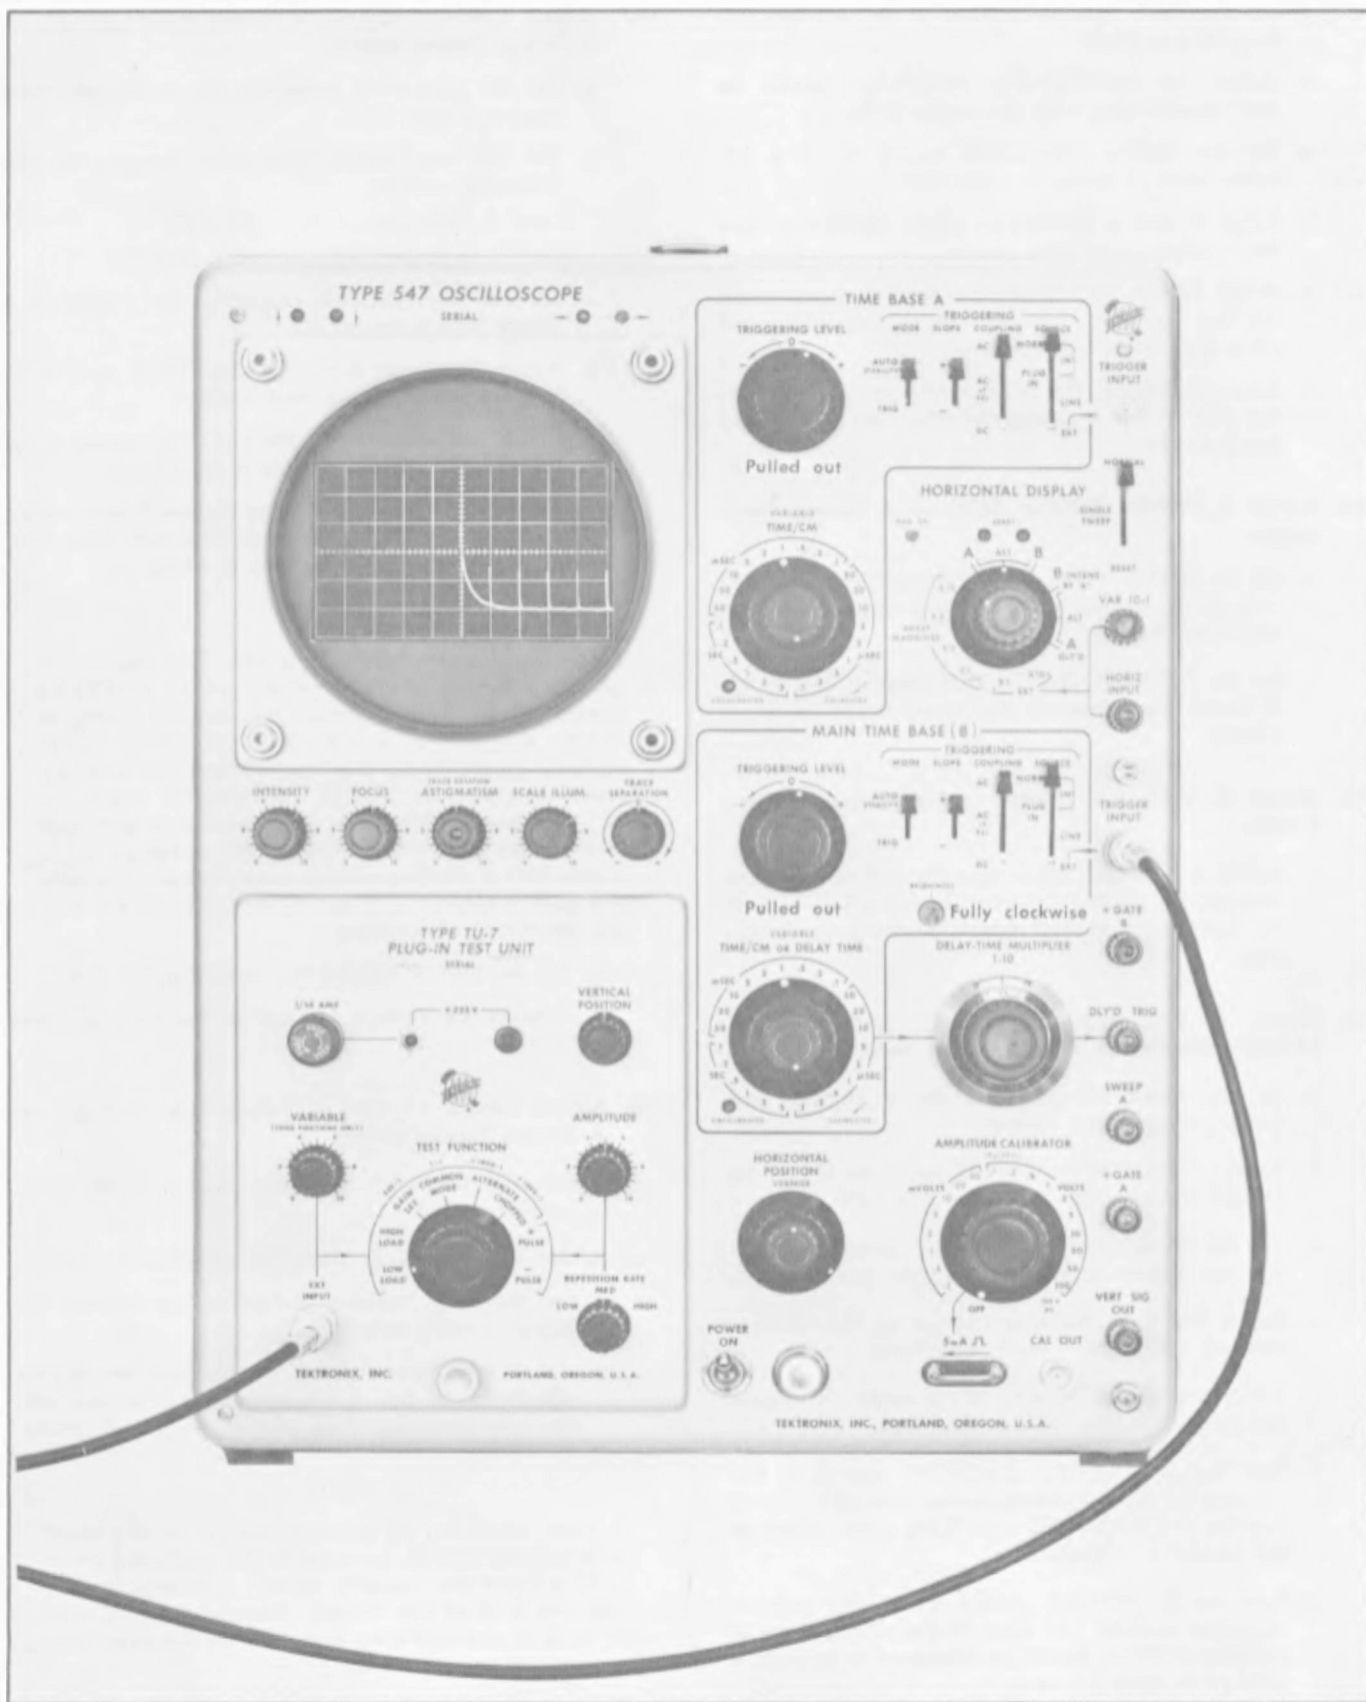

Fig. 5-14. Front-panel control settings at the completion of step 43g.
- g. Adjust TRACE SEPARATION control to superimpose the two displays. Fig. 5-14 shows the front-panel setup thus far in the procedure.